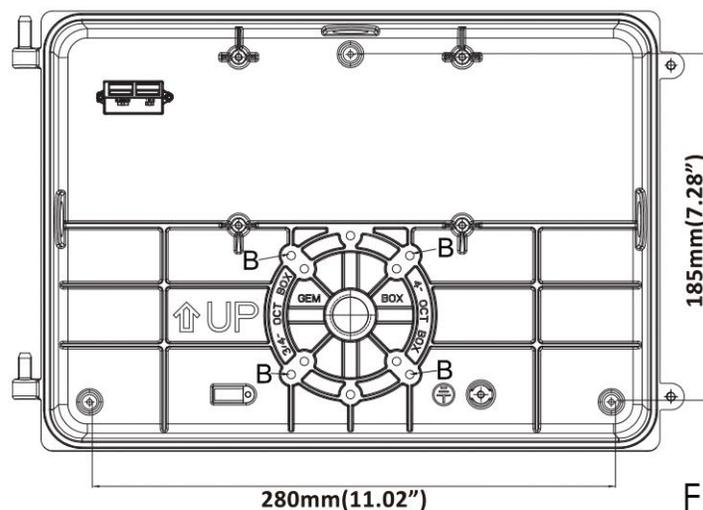

Fig4
**Step 2 Method B:** Drill holes as per existing junction box (Fig4).